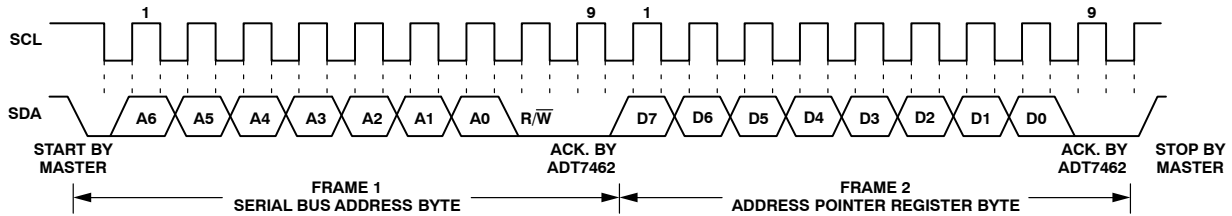

Figure 25. Writing to the Address Pointer Register Only
- If the ADT7462 address pointer register value is unknown or not the desired value, it must be set to the correct value before data can be read from the desired data register. This is done by performing a write to the ADT7462 as before, but only the data byte containing the register address is sent because no data is written to the register (see Figure 25).